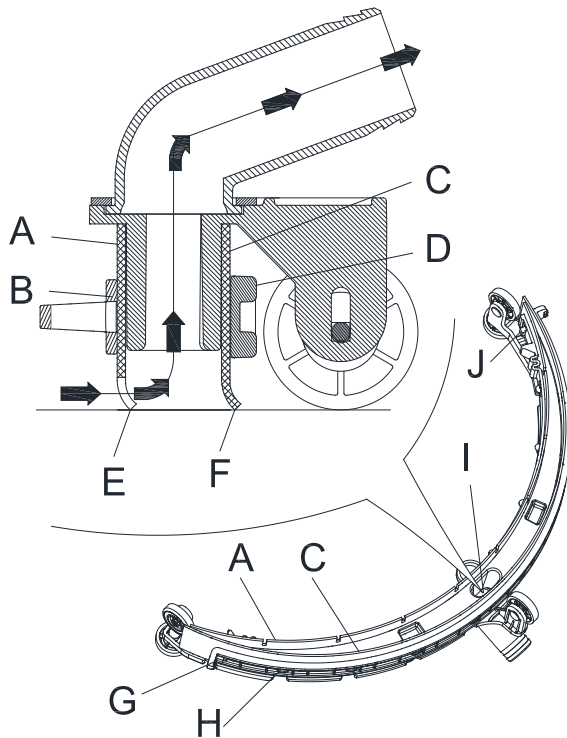

Figure 3
2. Check the condition of the front (A, Figure 3) and rear (C) blades, ensuring there are no cuts and tears; if necessary, replace them as shown below. Check that the front corner (F) of the rear blade is not worn; otherwise, turn the blade to replace the worn corner with one of the three remaining intact corners. If the other corners are worn too, replace the blade according to the following procedure:
- Use the tab (G) to release and remove the elastic strap (D) from the fasteners (H), then turn or replace the rear blade (C).
- Install the rear blade in the reverse order of removal. Fasten the elastic strap (D) to the fasteners (H) starting from one side. To make the fastening procedure easier, secure the fasteners one at a time, by locking the strap before the fastener with one hand and pulling it with the other hand.
- Remove the fastening strap (B) by disengaging it from the fasteners (J).
- Replace (or overturn) the front blade (A), then reinstall the fastening strap (B).